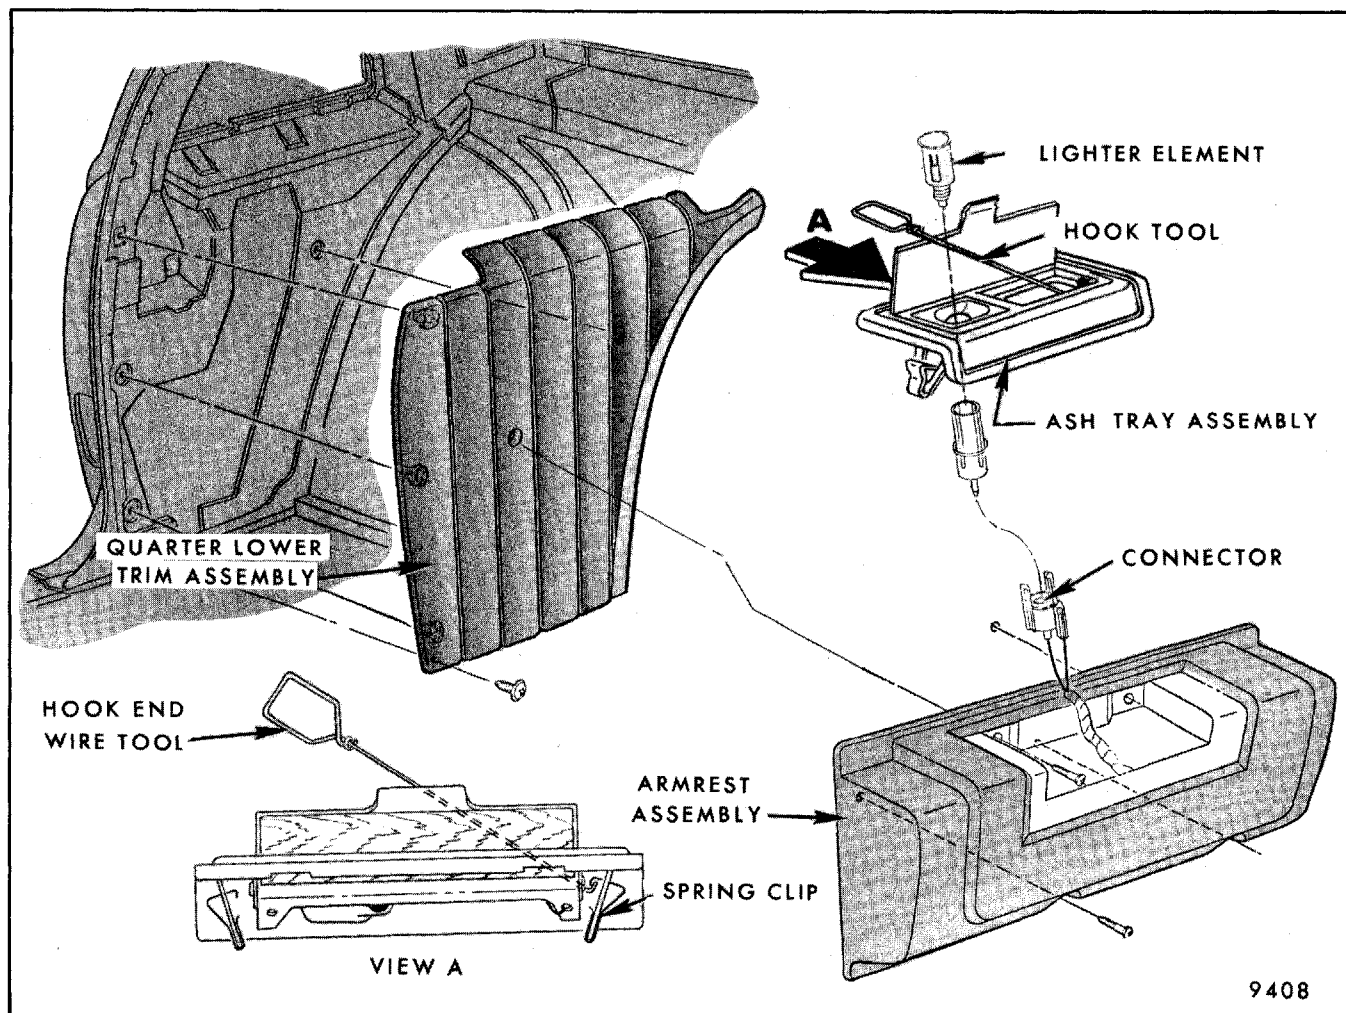

Fig. 6-3 - Quarter Armrest Attachment - C and 4BZ37 Styles
- b. With hook of tool, grasp top of rear spring clip as shown in view A of Figure 6-3 and pull forward until ash tray assembly is disengaged from armrest.
- c. Disconnect cigar lighter electrical connector (Fig. 6-3).